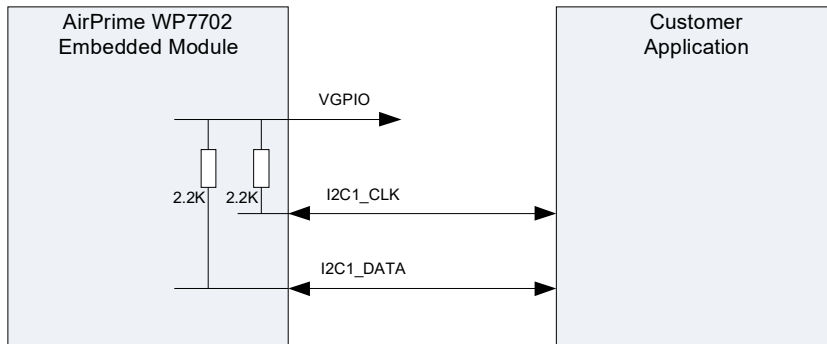

Figure 4-3: Example of I2C Bus Application
- I2C signals are implemented internally as open drain outputs (per the I2C specification) with 2.2 k $\Omega$  pull-up resistors to VGPI0 (see Figure 4-3 on page 65).